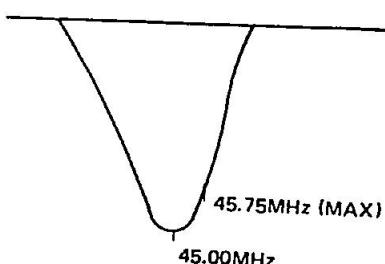

Figure 8 . I-F (45.75MHz) Response Curve.
2. Adjust L104 for maximum amplitude at 45.75MHz. (See Fig. 8.)